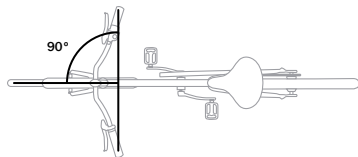

Figure 1.3: Proper alignment of handlebar and saddle.
- Make sure the bar is at 90 degrees to the wheel (Figure 1.3).
- Make sure the saddle is in line with the center of the bike (Figure 1.3).